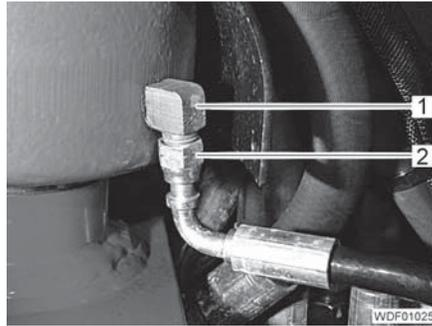

Fig. 285 Connection of the remote lubrication line
- Unscrew the remote lubrication line (Fig. 285,2).
- Unscrew the angle screw connection (Fig. 285,1).